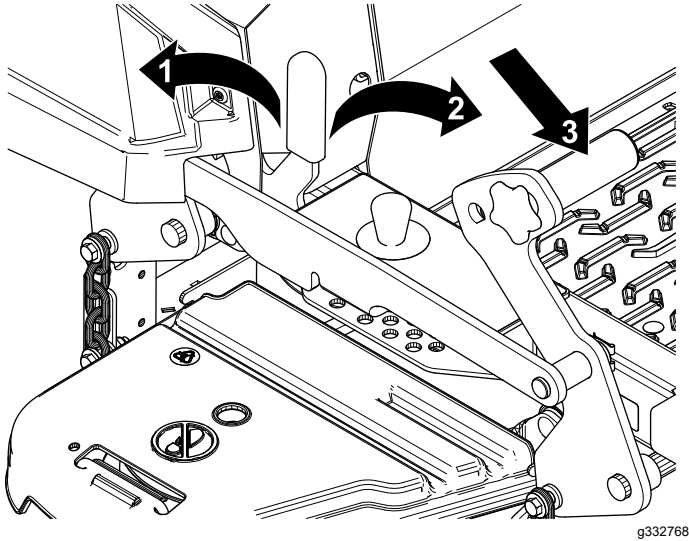

Figure 30
1. Push the deck-lift pedal fully forward to lock the mower deck in the TRANSPORT position (Figure 30).
2. Push the deck-lift pedal forward and push the transport lock forward to the UNLOCK position, then slowly lower the mower deck. (Figure 30).